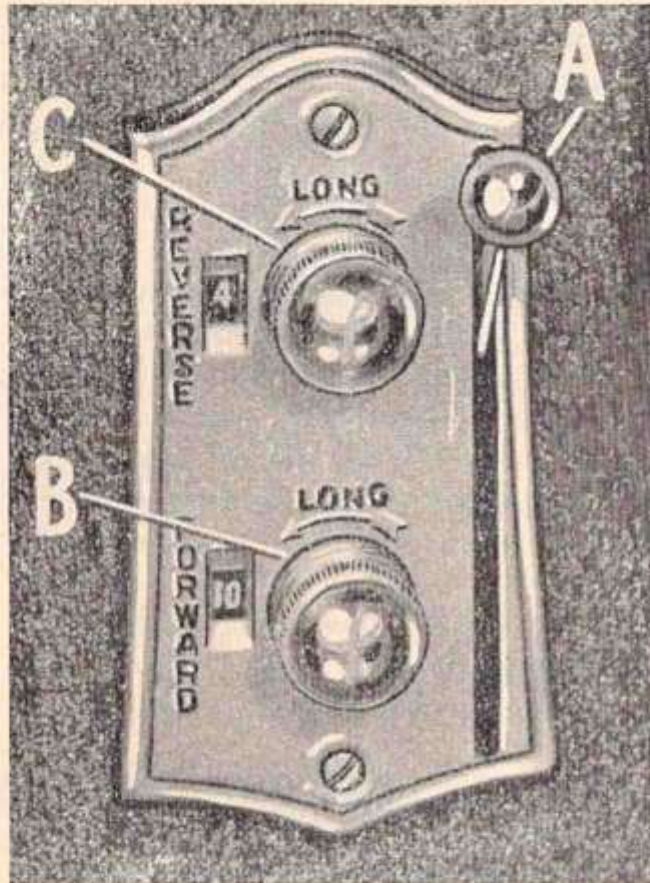

FIGURE 14
See Fig. 14. Without stopping the machine, merely press shift lever (A) down in slot to reverse the feed and sew backward at any time. The pressure of one finger is sufficient, and while lever is being held down the sewing will feed backward. When lever is released it returns automatically to its top position in the slot and the machine sews forward again in the regular way. The lever may be moved up and down at will, regardless of the speed at which machine is running. This is a fool-proof device as it is impossible for the operator to leave the machine set for reverse stitching.